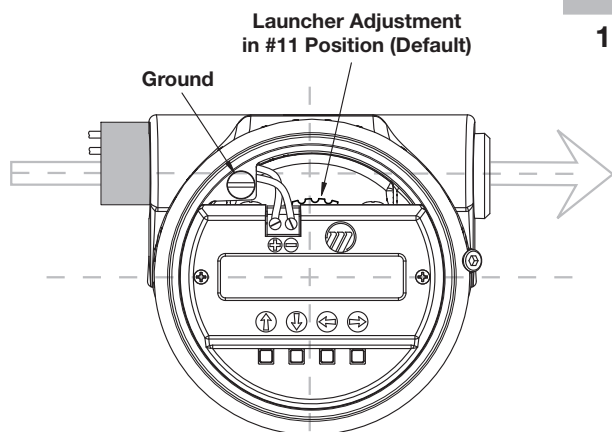
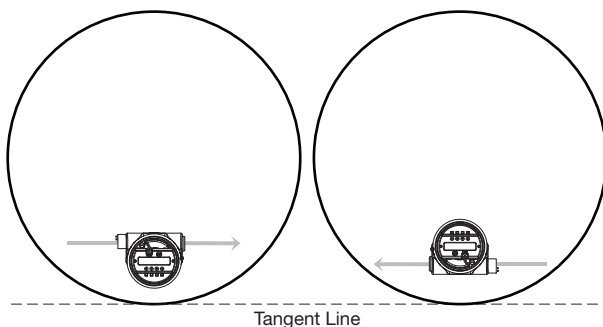

Figure 2
Figure 3
4. Adjust the beam position by turning the internal launcher adjustment (Figure 2). The internal launcher adjustment is numbered 1-18 that equates to 10-180 degrees of adjustment; 9 is the midpoint. The polarization pattern is parallel to the transmitter display when the adjustment mechanism is in the #11 position (factory default). After positioning the transmitter display, the launcher should be adjusted so the polarization pattern is parallel to a line tangent to the nearest tank wall (Figure 3). Do not optimize the Echo Strength at one level in the vessel.